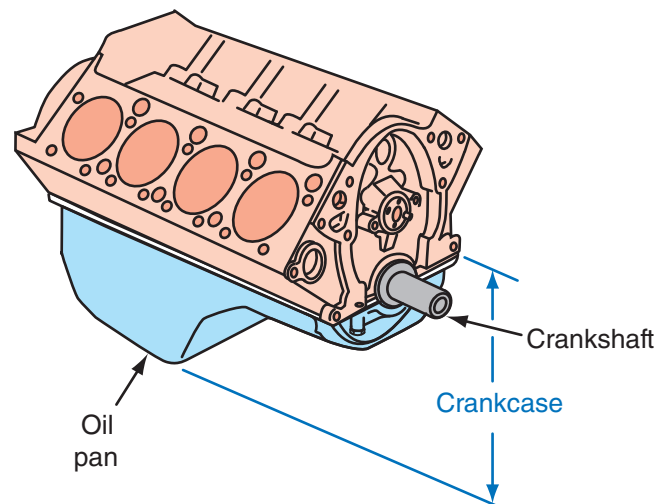

FIGURE 1.22 The oil pan encloses the crankcase.
- **Oil Pan.** The oil pan is a stamped sheet metal or cast aluminum part that encloses the crankcase (**FIGURE 1.22**). It provides a reservoir where the engine oil is cooled as air passes across its surface. Oil pans are sometimes damaged when driving or during engine removal and replacement. Sometimes a sheet metal oil pan can be bent enough so that the crankshaft comes in contact with it. After a rebuild, the resulting noise can cause a great deal of worry when the engine is first started.